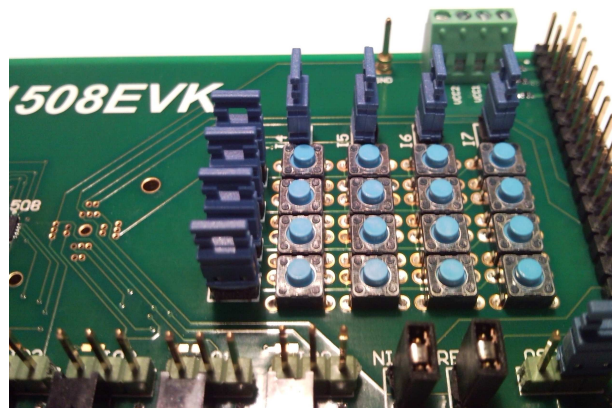

Figure 14: SX1508EVK Keypad Demo Jumpers Configuration (keypad position)
- ⇒ Jumper on corresponding keypad position (Cf. *Figure 14*): IO is connected to the keypad's corresponding row or column to use the keypad scan engine.